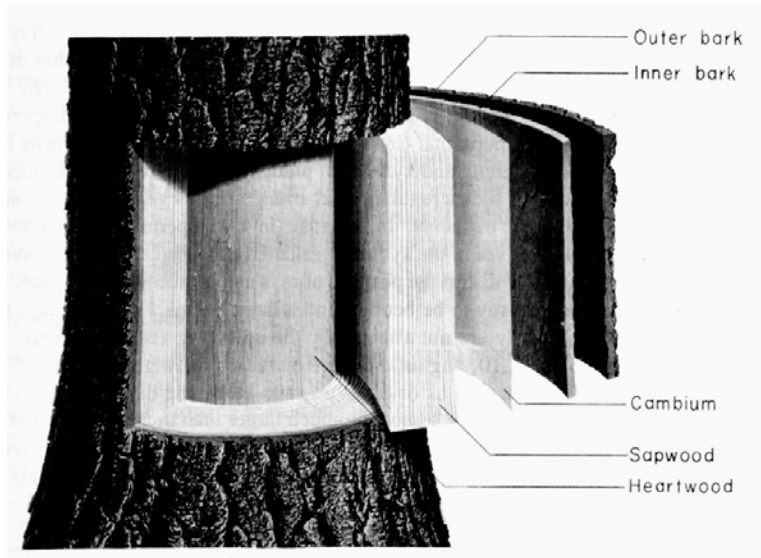

Figure 5: http://z.about.com/d/forestry/1/0/8/3/tree_bark.jpg
1. It is helpful to practice on a few trees outside the study area. The cambium layer is the first ‘wetter’ wood you find right beneath the inner bark layer (see figure 5). Its depth varies by tree and by species. Take care not to chisel into the cambium layer, as this will damage the trees’ living tissue.